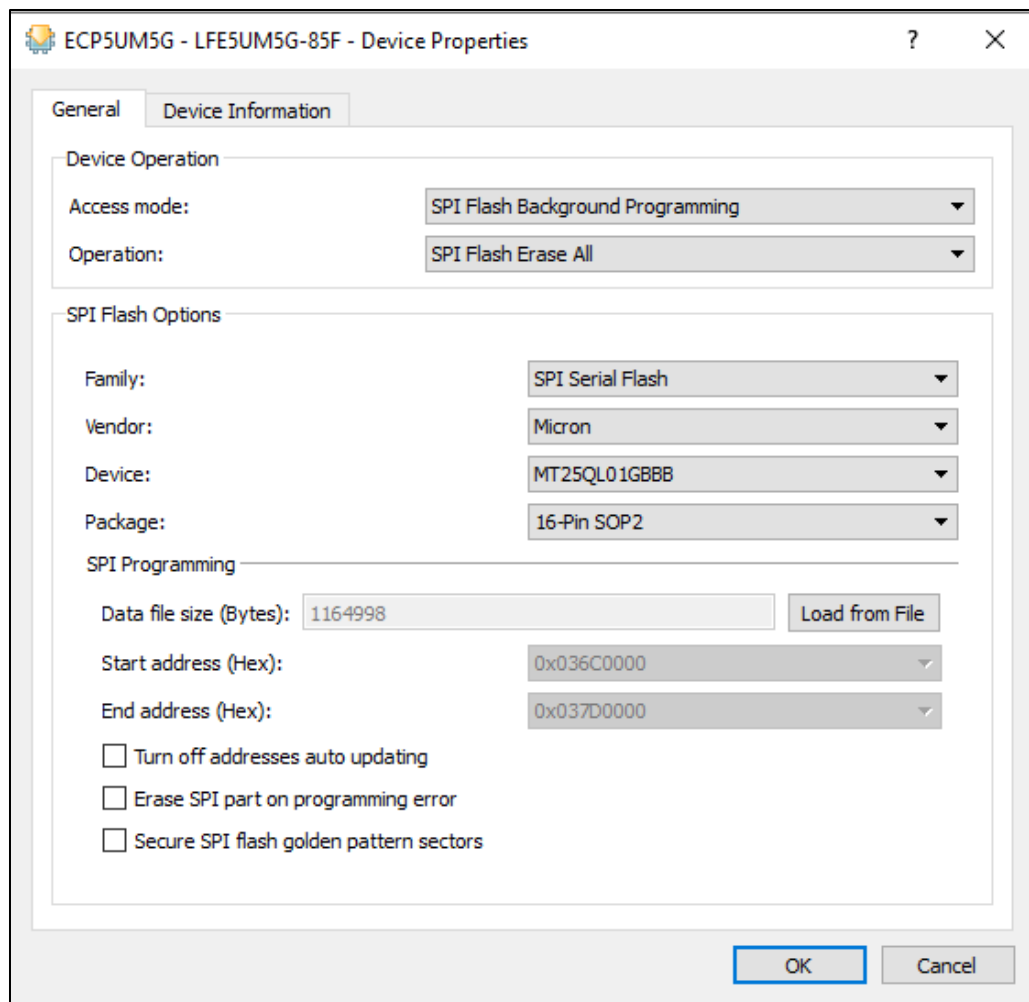

Figure 6.9 BMC Flash Erase All
4. Double-click on the **Operation** field to open the **Device Properties** dialog box, as shown in Figure 6.9.